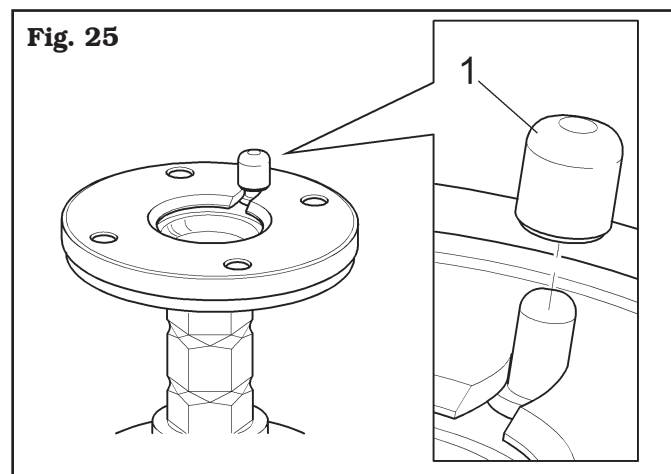

Fig. 25
7. For wheels with alloy rims, use the proper plastic guard (Fig. 25 ref. 1) (optional).